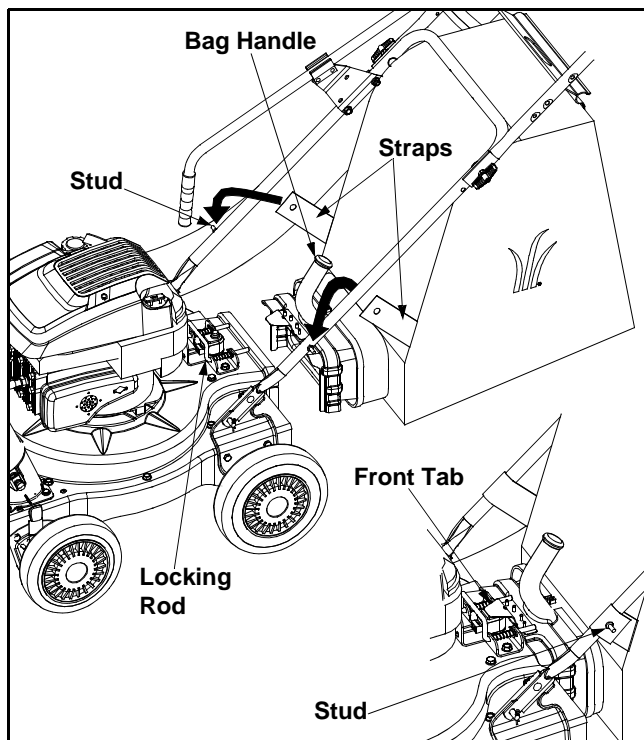

Figure 4
- Grasp bag handle with one hand and slide locking rod on mounting bracket with other hand toward engine. Use the end of mounting bracket as leverage when sliding the locking rod. See Figure 4.
- Remove bag from rim of the discharge opening. Refer to Figure 4.